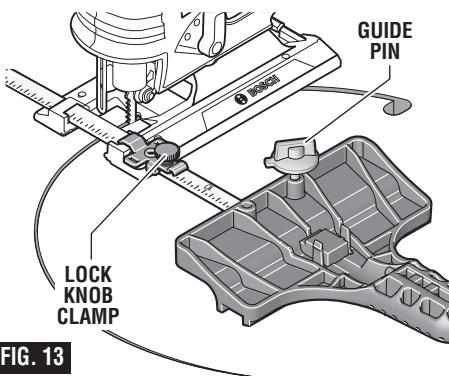

FIG. 13
- Insert guide bar through a clamp, then through the slots provided in foot, from either side of foot (Fig. 13). (If possible, place second clamp on bar from opposite side of jig saw).